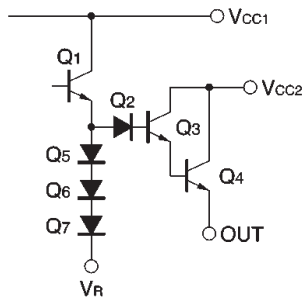

Fig.7
(1) A schematic for the internal circuit associated with the output voltage setting pin (Pin 4) is shown in Fig. 7. The maximum output voltage ($V_{OMAX.}$) is given by :